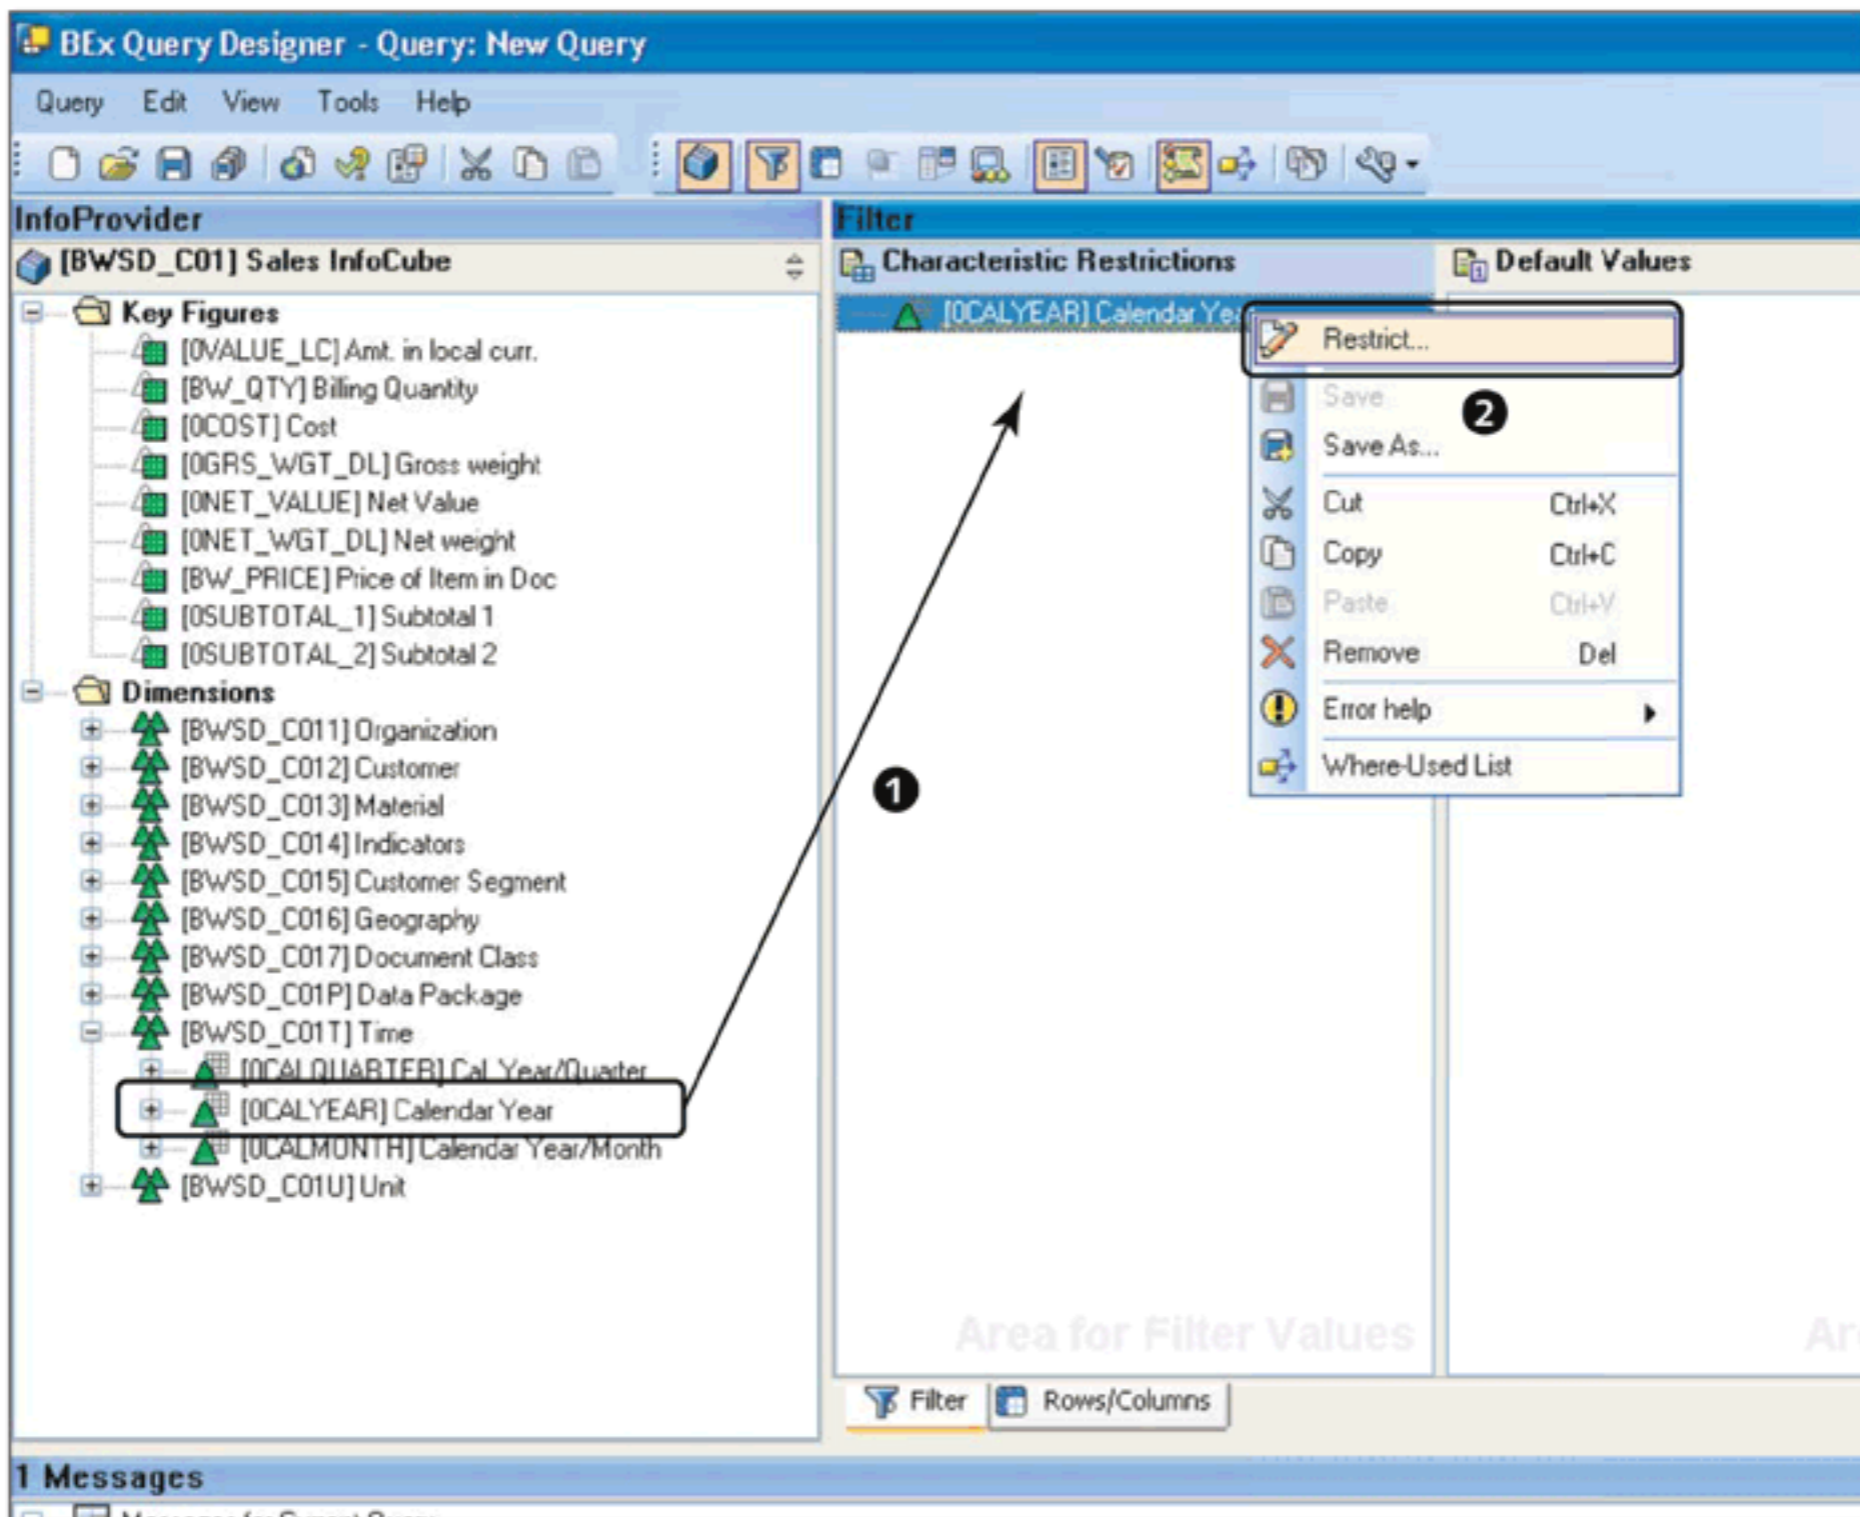

Figure 9.9 Add Characteristic for Query Restrictions
From these requirements, it's clear that the query needs to be *restricted* to year 2009 and Sales Organization 3000. These restrictions can be applied on the FILTER area and under CHARACTERISTIC RESTRICTIONS section. So if you want to restrict the query results for calendar year, drag and drop the characteristic CALENDAR YEAR from the INFOPROVIDER area to the CHARACTERISTIC RESTRICTIONS area (❶ of Figure 9.9). Then, select RESTRICT from the context menu of the characteristic to define the restrictions (❷).